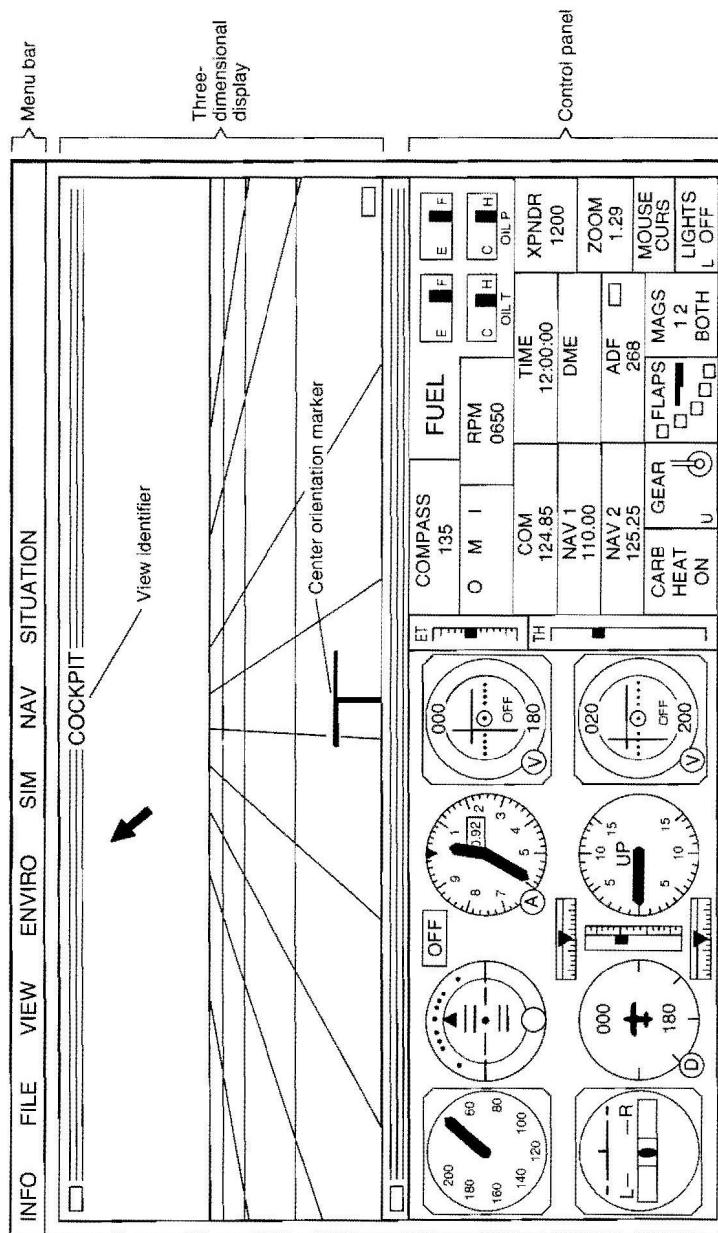

Figure 1. Flight Display on Color Monitor
Windows are used for all Flight Simulator II displays. Figure 1 shows the basic display configuration on a color monitor.
The window that usually occupies the top half of the display screen is the 3D display (see Figure 1). This is the view out your windshield, your side windows, or from the control tower depending upon which view you select. The title bar on top of the window tells the view mode. Through this window you can see the runway, terrain, and horizon. You can also see the airplane you are flying if you have tower or spot view selected.
The six basic flight instruments are grouped in the standardized instrument cluster shown in Reference Figure 1 in APPENDIX I of this manual. This cluster includes:
These are used to tune-in and identify VOR navigation aids (to be covered later). These are 200-channel radios that receive frequencies between 108.00 and 117.95 MHz with 50 kHz separation. These receivers control the omni-bearing-indicators (Reference Figure 1, items 8 and 9). The NAV1 radio controls the top omni-bearing indicator, and the NAV2 radio controls the bottom omni-bearing indicator.